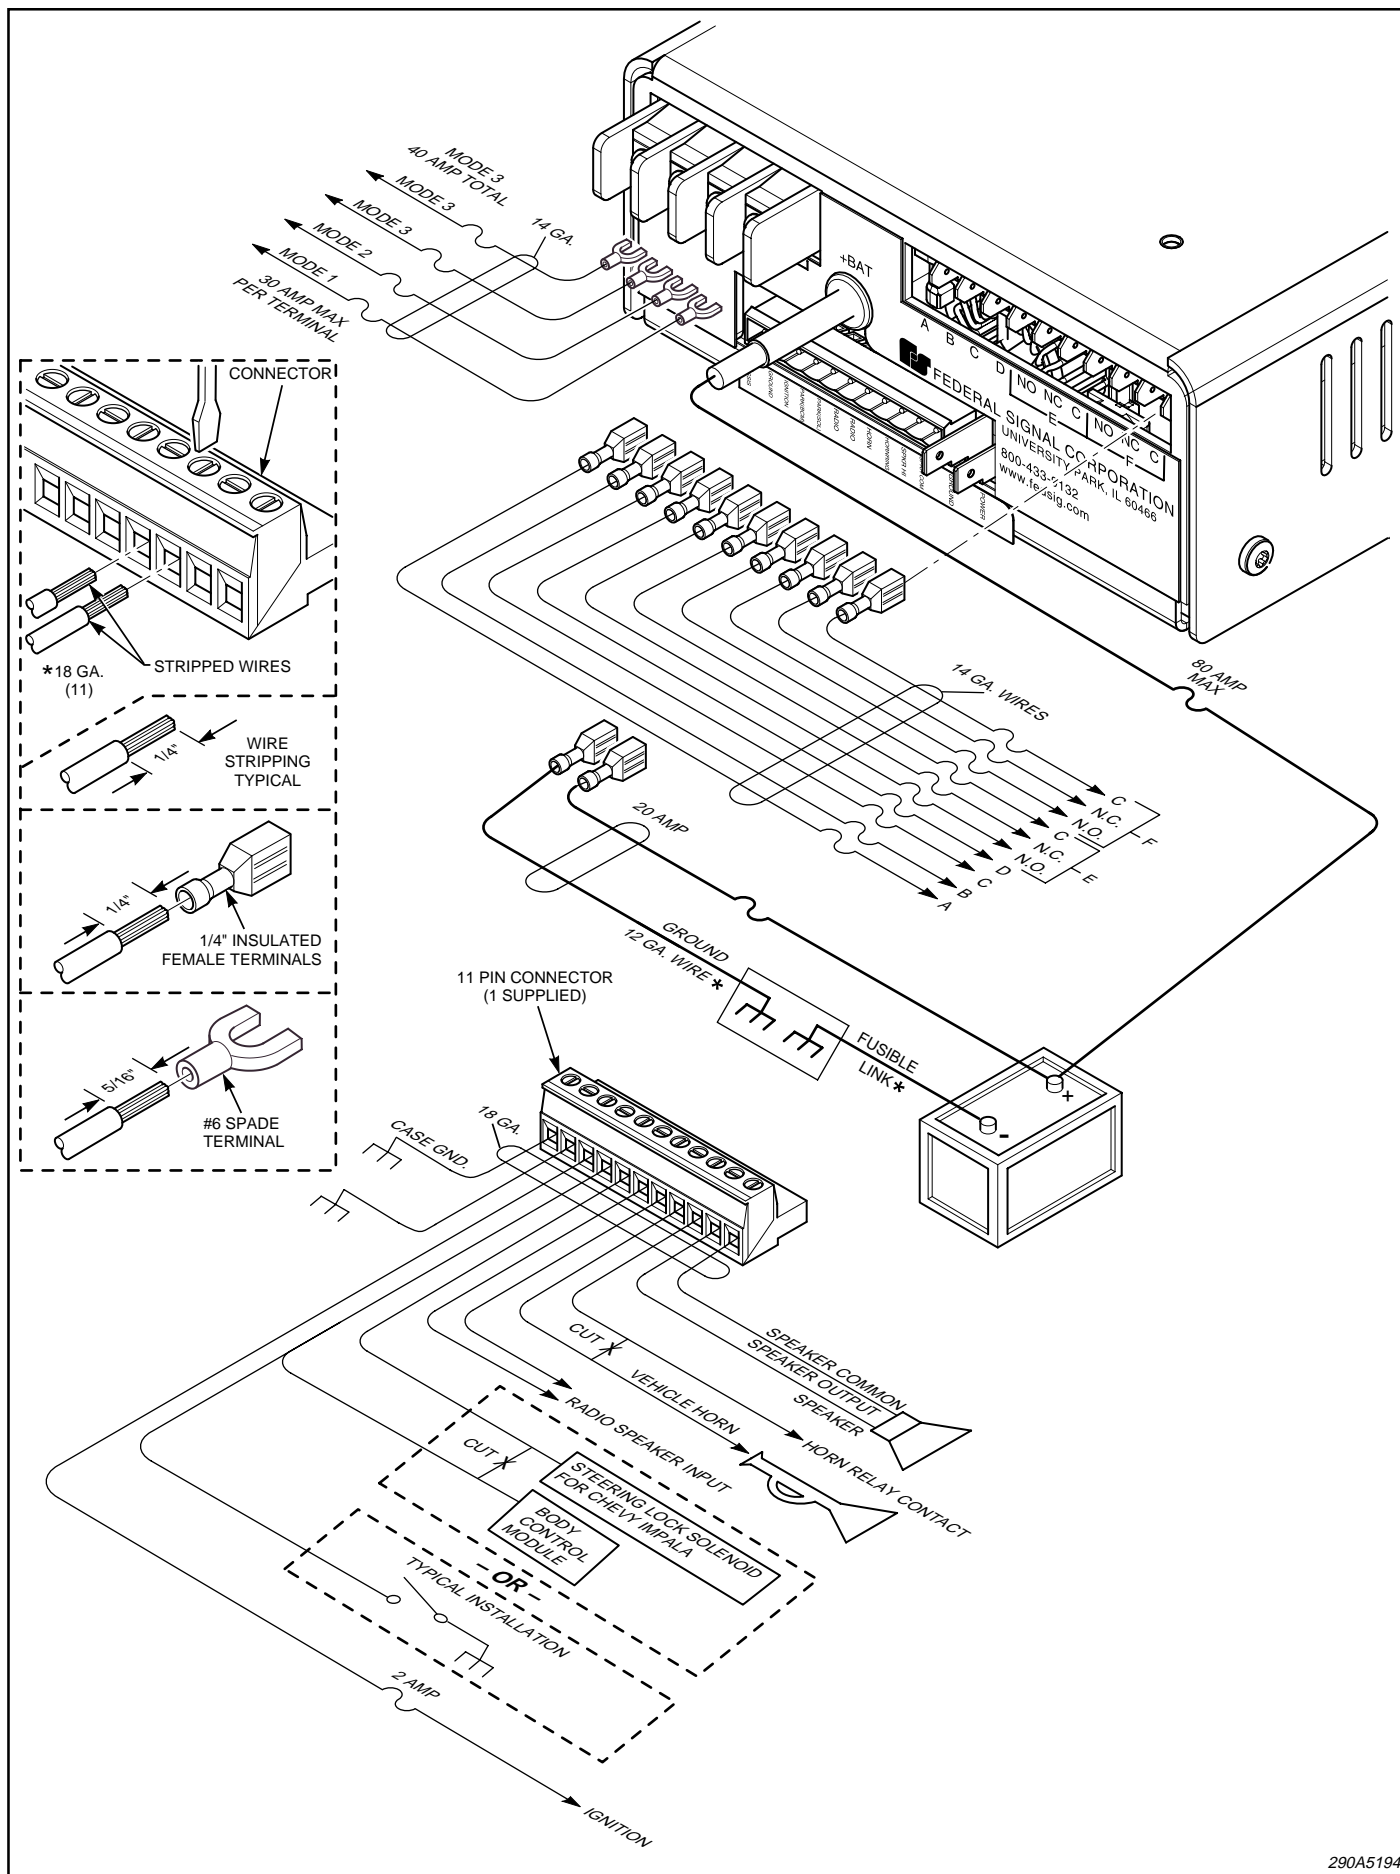

Figure 4-2.
The unit is designed to operate with one 11-ohm impedance speaker (100W). See figure 4-2.
Using 18 gauge wire, connect the speaker leads to positions 10 and 11 of the eleven-position connector as shown in figure 4-2.
See figure 4-2. To allow incoming radio messages to be rebroadcast over the outside speakers, connect user-supplied 18 gauge wires to positions 6 and 7 of the eleven-position connector. Connect the other end of the 18 gauge wires across the two-way radio's speaker.
- b. See figure 4-2. Connect a user-supplied 18 gauge wire to position 8 of the eleven-position connector. Connect the other end of the wire to the horn side of the cut wire. Insulate the connection.
- c. See figure 4-2. Connect a user-supplied 18 gauge wire to position 9 of the eleven-position connector. Connect the other end of the wire to the horn relay side of the cut wire. Insulate the connection.
See figure 4-2. Typical installations connect a user-supplied 18 gauge wire to position 4 (BCM) of the eleven-position connector. Connect the other end of the wire to a vehicle circuit that is GROUNDED when the vehicle is shifted into PARK. This is normally the transmission neutral safety switch. Position 5 of the eleven-position connector is not used.
Using figure 4-2 as a guide, proceed as follows:
B. *Light Bar and Auxiliary Light Connections* (see figure 4-2).